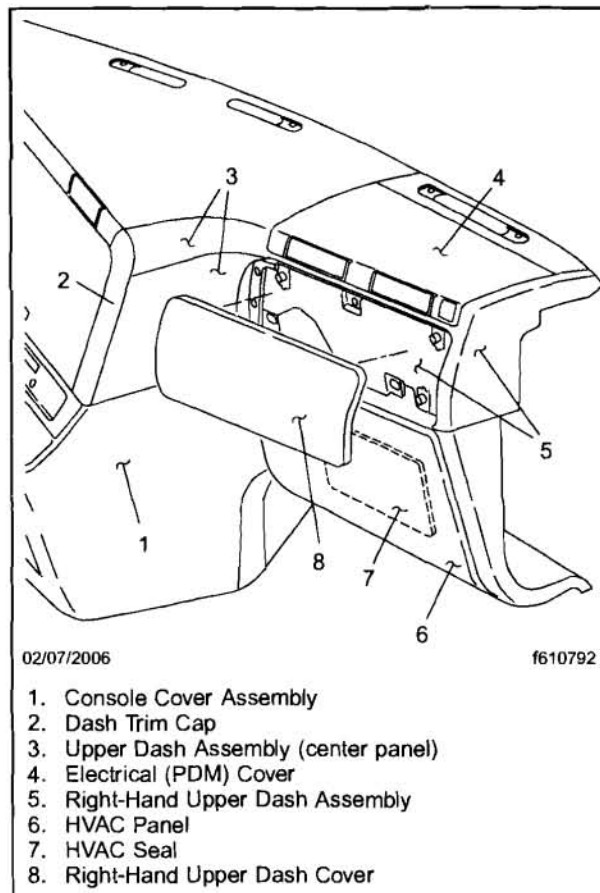

Fig. 4, Dash Panels (left-hand drive shown)
1. From inside the cab, remove the necessary dash panels to gain access to the top and bottom of the PDM. See Fig. 4.